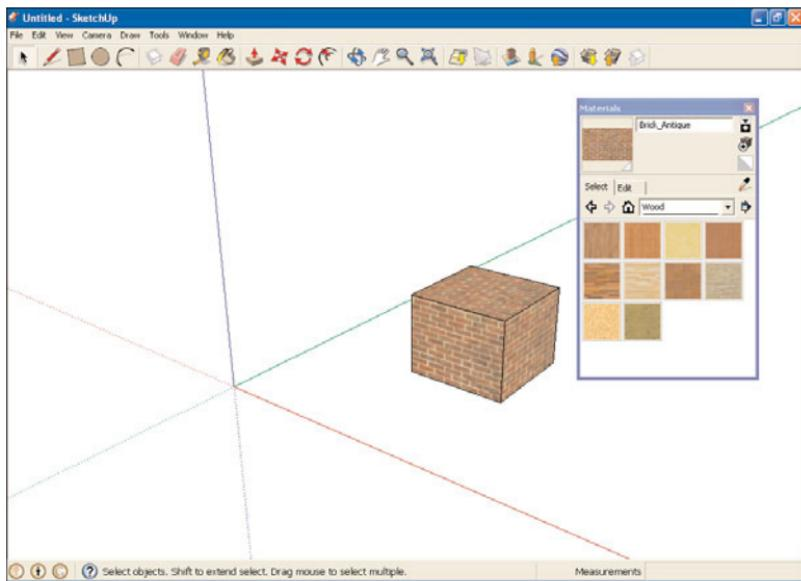

FIGURE 7.16 Sampling materials.
9. Click a surface of the cube. SketchUp will determine which material the dropper has clicked and display that material, as well as its name, in the square at the upper left in the materials browser, as you can see in Figure 7.16.